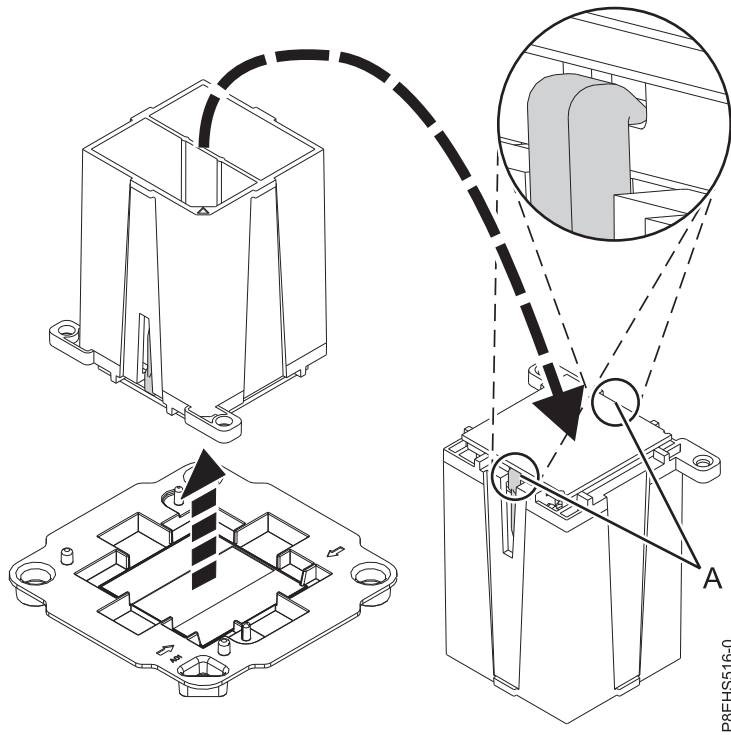

Figure 98. Preparing for system processor module installation
- b. Ensure that both jaws (A) are firmly grabbing the system processor module, as shown in Figure 98.